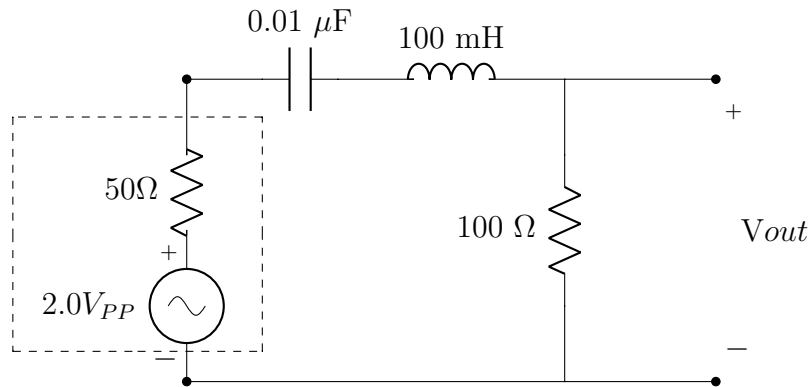

Figure 7.3: Series RLC Circuit
1. Set up the series RLC circuit shown in Figure 7.3, using the function generator to provide the sinusoidal input voltage.